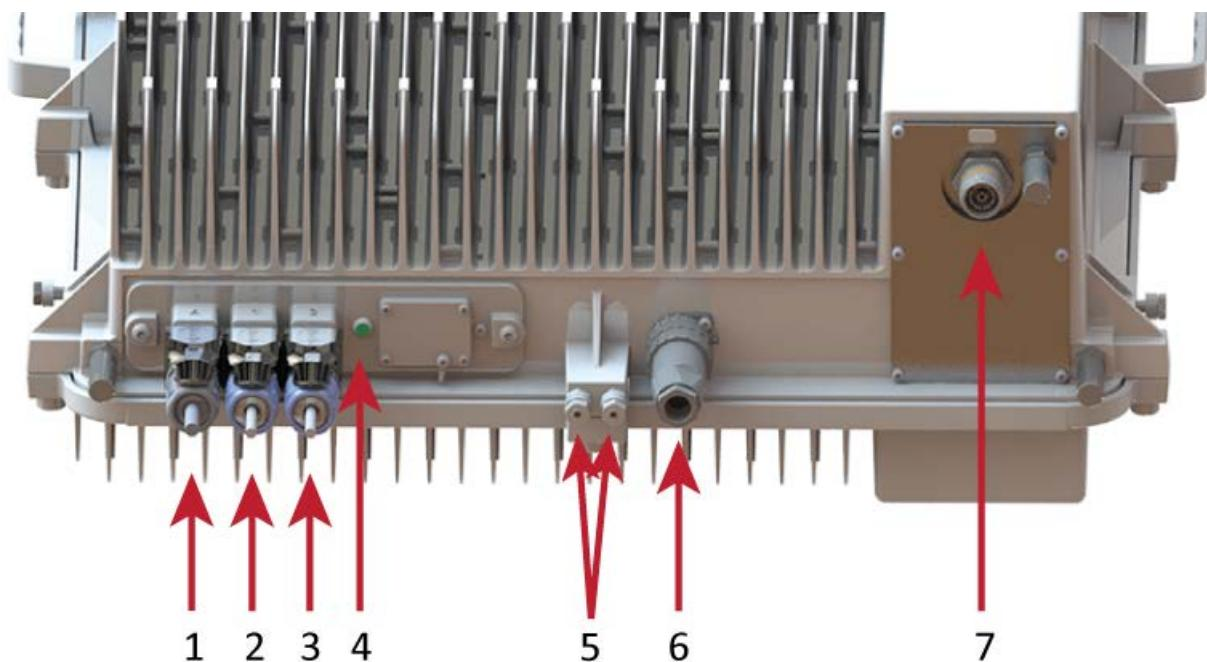

Figure 2. Location of Connectors and Power LED on a CAP MX with One Antenna Connector
- Figure 2 shows the connectors and Power LED on a CAP MX that has one antenna connector.
- Table 2 on page 7 maps the callouts in Figure 2 and describes the connectors and Power LED.